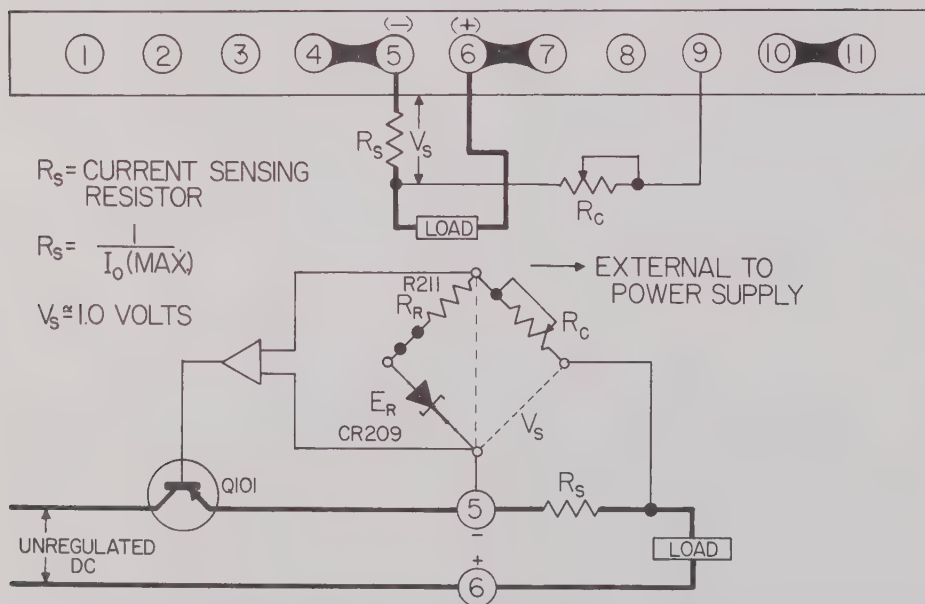

FIG. 3-7 CONNECTIONS FOR CONSTANT CURRENT OPERATION
- 3-23 In the constant current operating mode, the voltage comparison bridge is interconnected with an external current sensing resistor, R_s , and a current control, R_c , (as shown in Fig. 3-7) to maintain a constant voltage drop across R_s . In this way, an adjustable constant load current is obtained. Characteristic of the constant current supply is the ability to change its output voltage automatically in order to maintain a constant current through a range of possible load
3-26 PROCEDURE (Refer to Fig. 3-7)